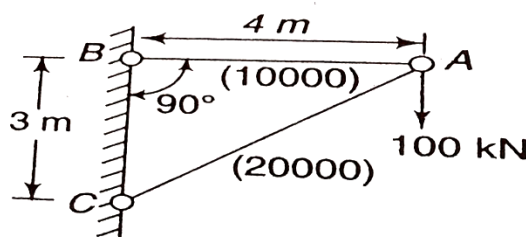

Figure 3.8
8. Figure 3.8 shows a jip-Crane carrying vertical load of 10kN at A. Determine the deflection of Joint A. Hence calculate the forces in members AB& AC. The cross-sectional area in mm^2 . Take $E=200kN-mm^2$.